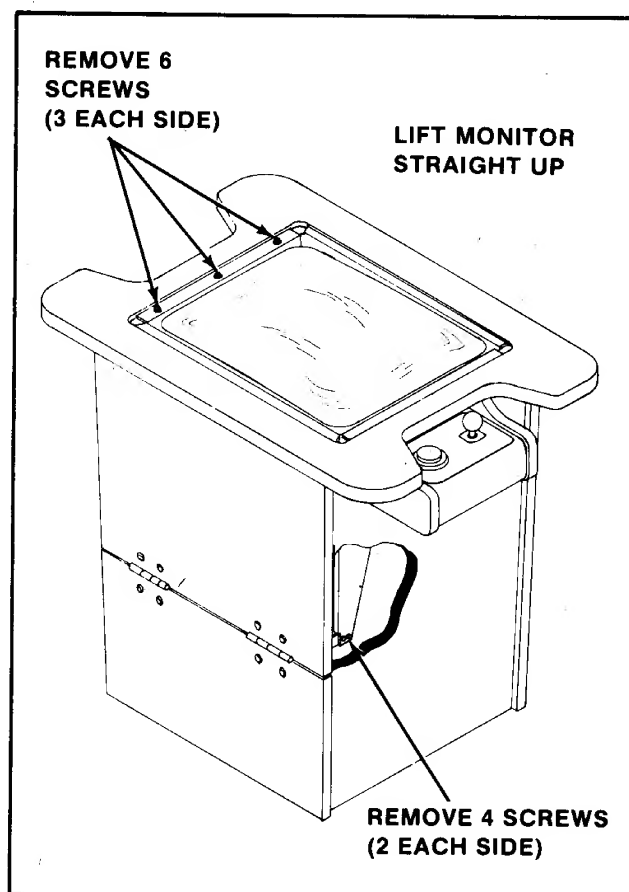

Figure 4-11 Removing Monitor — Cocktail
3. COCKTAIL TABLE MODEL: See Figure 4-11.
- ☐ Remove the screws holding the T.V. monitor chassis to the "L" by the door hinge(s). See Figure 4-11.
- ☐ Remove the screws which secure the T.V monitor mounting brackets to the edges of the slot cut in the table top. See Figure 4-11.